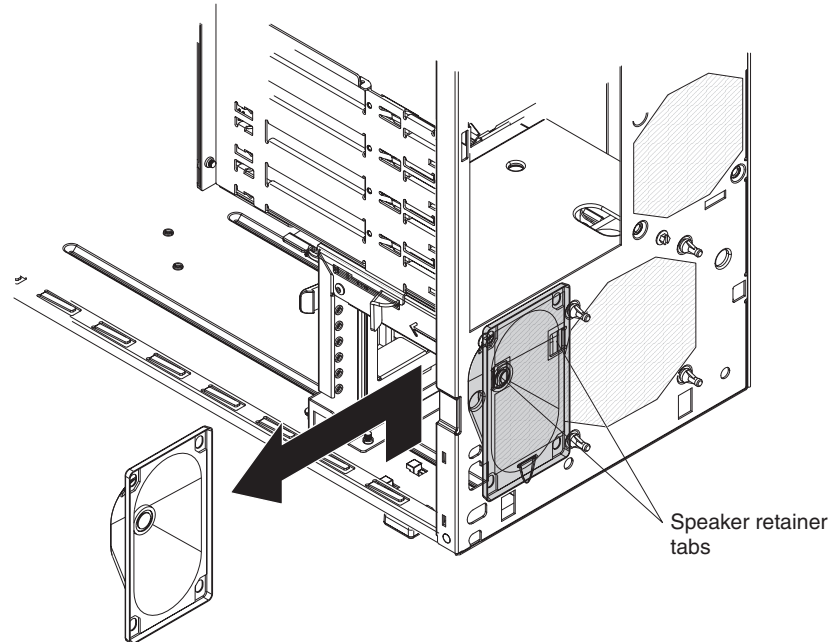

Figure 25. Removing the speaker
7. Grasp the speaker and slide the speaker out of its retaining tabs toward the top of the chassis; then, lift it out of the chassis (see Figure 25).